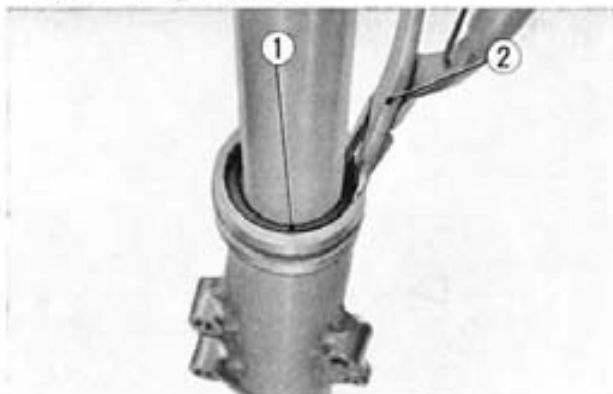

Fig. 11-13 ① Internal circlip ② Pliers
4. Disassemble the front fork by removing the internal circlip with a circlip pliers and separating the front fork pipe from the bottom case (Fig. 11-13).